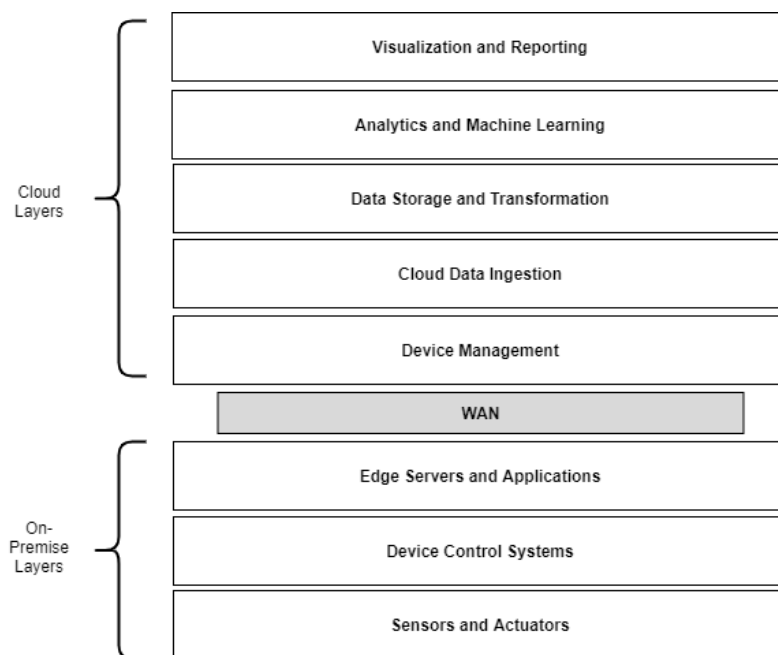

Figure 2.1 – Layered architecture outline
*Figure 2.1* is our first glance at a reference layered architecture. I have avoided giving these layers specific numbers since I think there should be some fluidity based on your circumstances. However, this model can be easily mapped to the Purdue model, or other industrial models, or modified completely based on your experience and preferences.
The layers in *Figure 2.1* are a strawman representation of what you might consider your initial design attempts, which is the focus of this chapter. Adding some definition to each layer will help us define how we might use these layers and draw distinct borders between these layers. When thinking about borders across layers, it is important to consider communication options, protocols, and security as data crosses the boundaries that are defined.